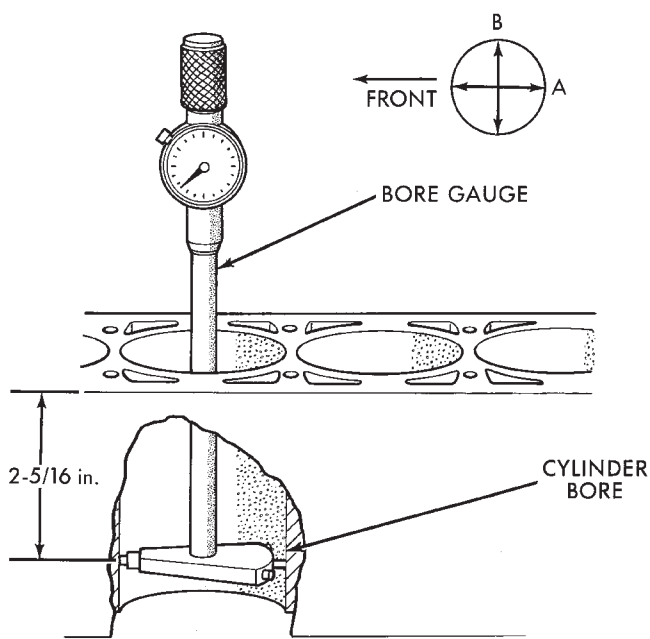

Fig. 6 Bore Gauge
(1) To correctly select the proper size piston, a cylinder bore gauge, capable of reading in .0001" INCREMENTS is required (Fig. 6). If a bore gauge is not available, do not use an inside micrometer.
(2) The coating material is applied to the piston after the final piston machining process. Measuring the outside diameter of a coated piston will not provide accurate results. Therefore measuring the inside diameter of the cylinder bore with a dial Bore Gauge is **MANDATORY**. To correctly select the proper size piston, a cylinder bore gauge capable of reading in .0001" increments is required.
(3) Piston installation into the cylinder bore require slightly more pressure than that required for non-coated pistons. The bonded coating on the piston will give the appearance of a line-to-line fit with the cylinder bore.